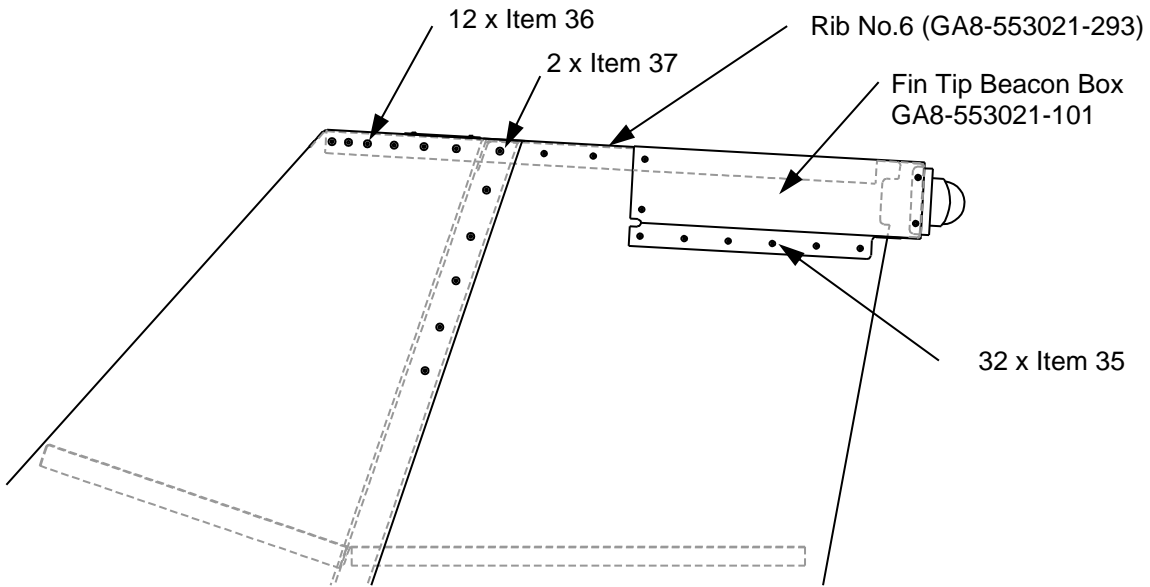

Figure 4 : Fin Tip Alteration
- 33. Remove the Fin Tip Beacon Box P/N GA8-553021-101 by drilling out the eight rivets (per side) refer in Figure 4.
41. Refit Rib No.6 (GA8-553011-293) and Fin Tip Beacon Box (GA8-553011-101) using pop rivets (12 x Item 36, 2 x Item 37 and 30 x Item 35), refer Figure 4.